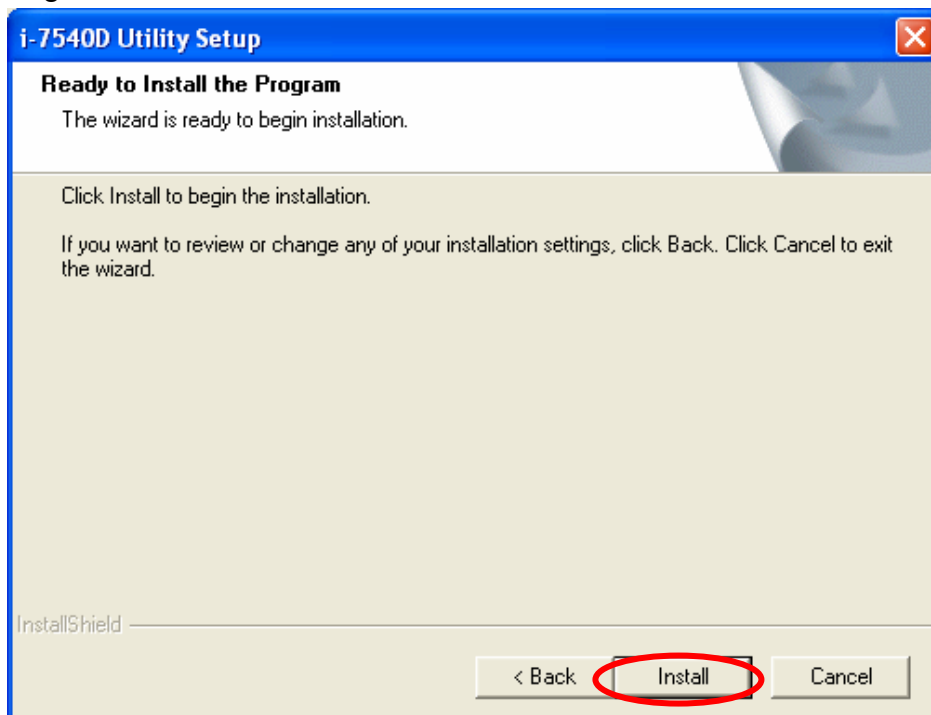

Figure 3-4: “Ready to Install the Program” dialog
Step 5: Click “Next” button and a “Ready to Install the Program” window will pop up to prompt user that the wizard is ready to begin the installation. See figure 3-4.